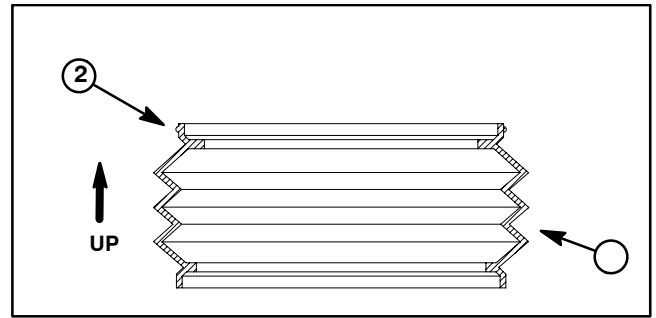
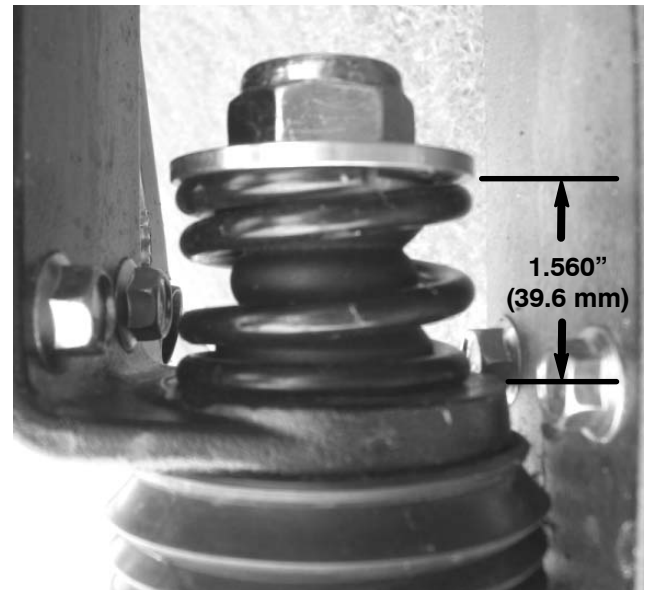

Figure 48
Figure 49
1. If pivot bracket (item 11) was removed from machine, lightly lubricate bushings (item 12) with motor oil before assembly. Connect boom actuator (not shown) to pivot bracket (see Boom Actuator Installation (Machines with Serial Numbers Above 260000000) in this section).
2. Make sure that hinges (item 1) are securely fastened to pivot bracket (item 11) and boom (item 5). The boom hinge uses four (4) backing plates between the boom and flange nuts.
3. Position boom hinge to pivot bracket hinge. Make sure that rubber boots (item 2) are placed at hinge junctions and that rib on boots are toward the top of the boom (Fig. 48).
4. Insert two (2) cap screws (item 9) through flat washers (item 10) and hinges. Place tube (item 17), breakaway spring (item 19), spring retainer (item 18) and lock nut (item 8) on each cap screw. Make sure that shoulder on spring retainer fits into breakaway spring.
5. Tighten lock nuts so there is 1.560" (39.6 mm) between the face of the spring retainer and the hinge casting (Fig. 49).